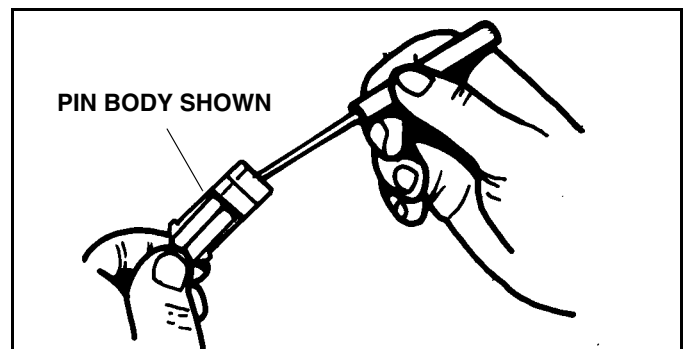

Figure 3-5
4. Locate the terminal lock tang in the connector cavity by looking into the connector from the mating end. Use Terminal Removal Tool (#96102499) to depress the lock tang and gently pull wire to remove wire and terminal from connector body. (See Figure 3-5).
5. Locate the terminal lock tang in the connector cavity by looking into the connector from the mating end. Use Terminal Removal Tool (#96102499) to depress the lock tang and gently pull wire to remove wire and terminal from connector body. (See Figure 3-5).